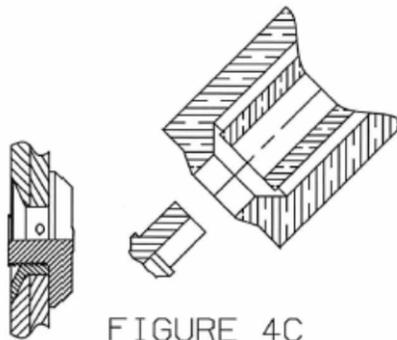

FIGURE 4C
- 9.4 The driving force is then applied by the pneumatic power tool. As power is applied, the screw is turned and the nut is held stationary by the nose piece. As driving is completed, the flattened portion of the screw is snapped off and ejected from the spring loaded wrench adapter (Figure 4C). The resultant break-off should be within the limits specified on the product drawings.